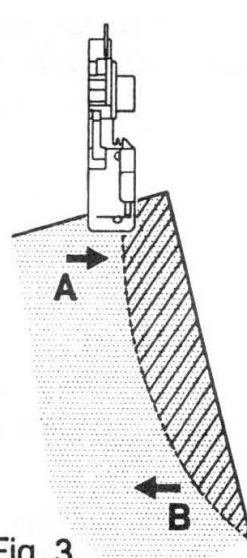

Fig. 3
Loops may hang off the edge, when you sew with lightweight fabric using 3 threads (right needle only), and setting cutting width dial at 4-5(Fig.3). In such a case change the stitch finger(A) to (B) to get neat stitching(Fig.4)
For inside curves, guide fabric gently with trimming line of the fabric under the right front of the presser foot (or a little to the left), applying pressure at point A in the direction of the arrow with your left hand, and at the same time applying a little opposite pressure at point B with your right hand. Fig.3.
FOR JOINING SIDE SEAMS, pass the cord through the rear hole, ensuring it is positioned to the right needle thread. (Fig.3)